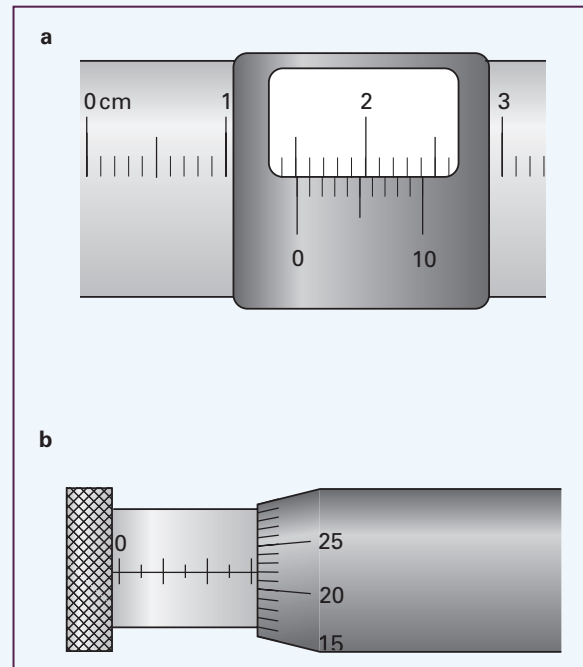

Figure 1.8 For Question 3.
- 3 State the measurements shown in Figure 1.8 on the scale of